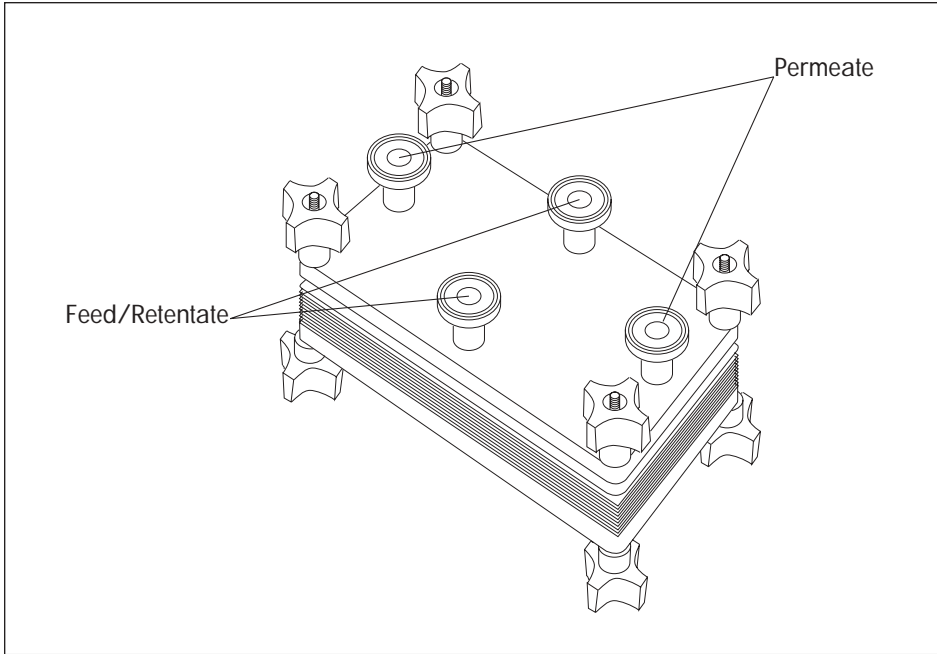

Figure 4. Module Assembled in Manifold
The assembly is now ready for use in your application, as shown in Figure 4. Please note the location of the permeate, feed and retentate fittings, which are labeled on the upper manifold plate.
2. Install the tee on the manifold in the selected feed position (see Figure 4).
4. Place a gasket into the groove on one of the permeate fittings, on the manifold (see Figure 4). Be sure that the gasket is seated snugly. (This port will be used to monitor permeate pressure.)
As in the previous installation of the tee and a pressure gauge, true-union connectors will be used to connect tubing to the remaining feed/retentate and permeate ports on the manifold (as shown in Figure 4).
2. Install the tubing on the module in the appropriate retentate and permeate positions (see Figure 4), by screwing the union nut onto the split nut. Tighten the connection to finger-tight.
During routine operation, it is highly recommended that a pressure gauge be installed on the second permeate fitting, to augment the process monitoring provided by the feed pressure gauge. (The installation of the two pressure gauges was described earlier.) Refer to Figure 4 for the location of the permeate fittings on the manifold/module assembly.